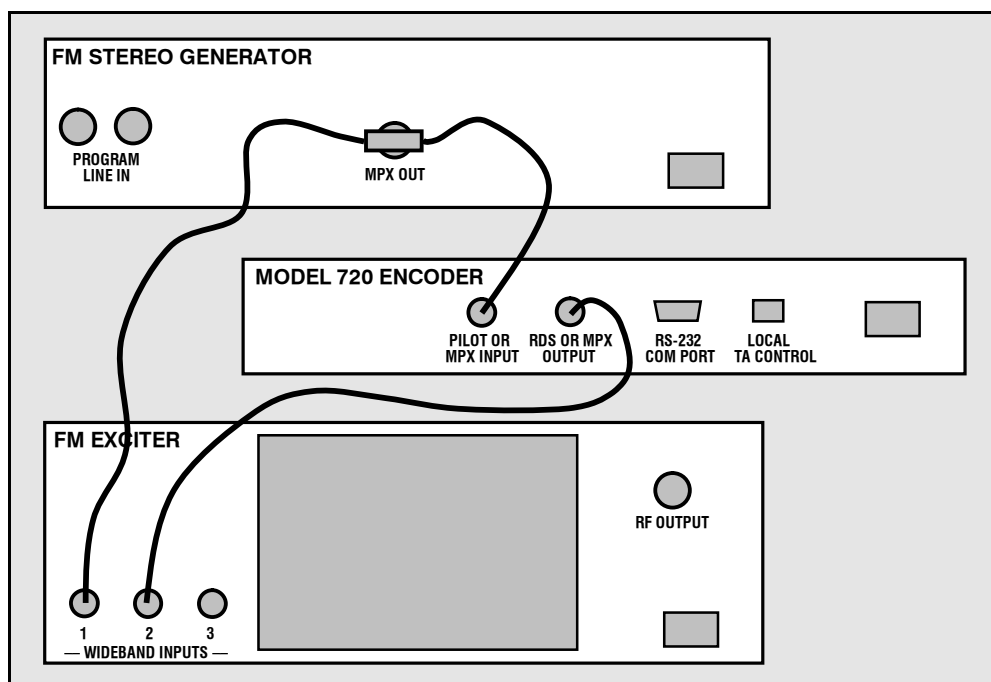

Figure 3 – ‘Sidechain’ Encoder Connection
Using a BNC ‘T’ adapter at the composite/MPX output of the stereo generator, connect one side of the ‘T’ directly to a wideband (composite/MPX) input of the FM exciter and the other side to the PILOT OR MPX INPUT of the Model 720 as shown in Figure 3. This is only a bridging ‘sync’ connection with the circuit board jumpered for sidechain operation and does not affect the composite/MPX signal.
**Composite STL** If a composite STL is used between the studio and the transmitter site, the 720 encoder may be kept at the studio for direct connection with station automation. Figures 3 and 4 still apply, with the STL transmitter taking the place of the FM exciter.